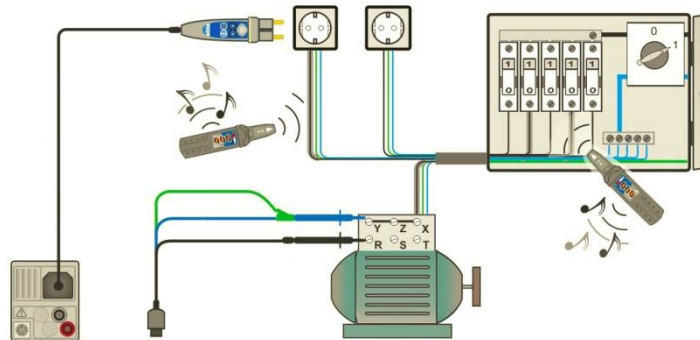
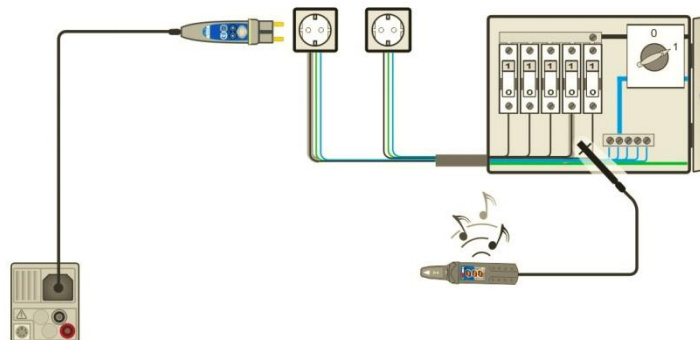

Figure 7.100: Tracing wires under walls and in cabinets
Figure 7.101: Locating individual fuses
- › Connect test leads to the tested object (see **Figure 7.100** and **Figure 7.101**).